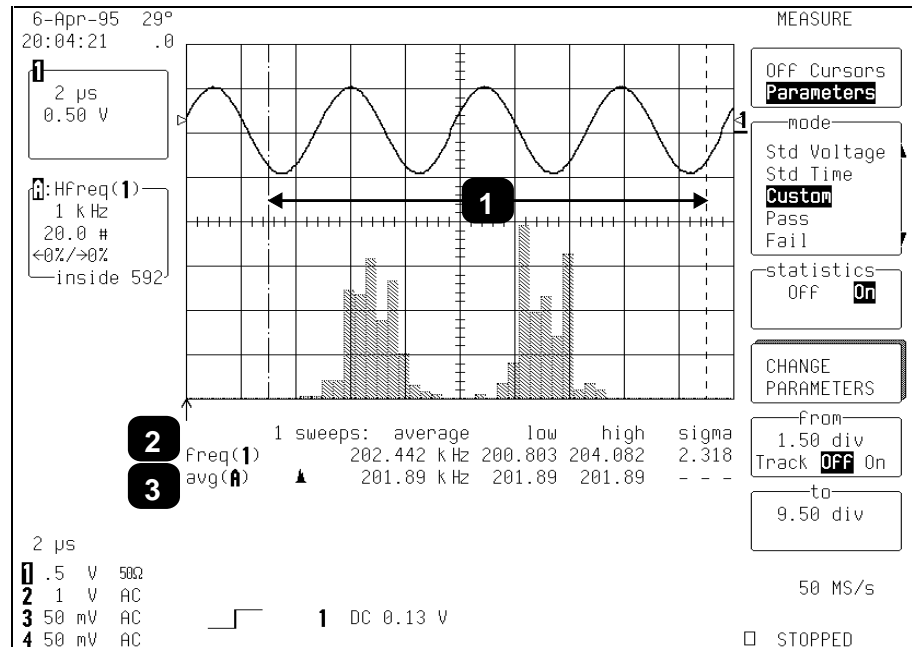

Figure 1.1
The "**MEASURE**" "**Parameters**" menu is accessed by pressing the **CURSORS/MEASURE** button, then selecting "**Parameters**" from the top menu that appears, as shown in *Figure 1.1*.
The top trace in *Figure 1.1* shows a sine waveform. A **freq** parameter measurement is being performed on the waveform (Annotation ❷) with a value of 202.442 kHz as the average frequency. The bottom trace shows a histogram of the **freq** parameter with an average frequency of 201.89 kHz (Annotation ❸), which is the average frequency of the data contained within the parameter cursors.